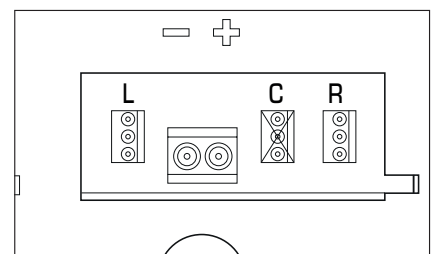
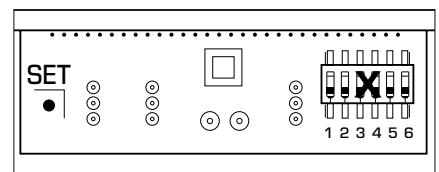

Fig. 1
Fig. 2
STEP 2: The double tank diagram in Fig 1 shows only L & R plugs are used. In Fig 2, switches 1 & 2 are used for L plug and switches 5 & 6 for R plug.